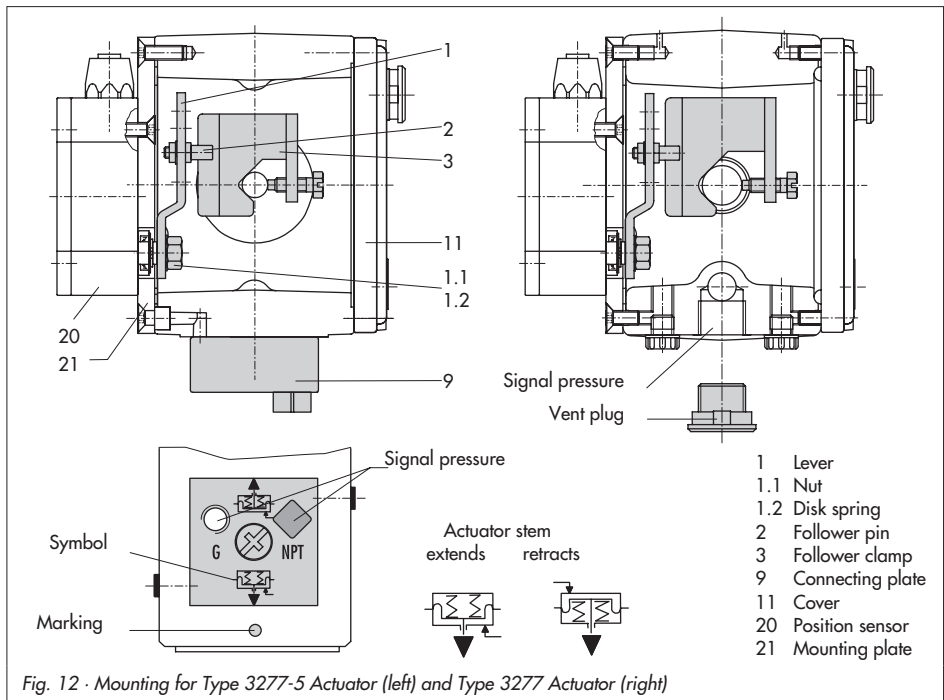

Fig. 12 · Mounting for Type 3277-5 Actuator (left) and Type 3277 Actuator (right)
The signal pressure from the positioner is routed over the signal pressure connection of the connecting plate (9, Fig. 12 left) to the actuator diaphragm chamber. To proceed, first screw the connecting plate (9) included in the accessories onto the actuator yoke.
- ▶ Turn the connecting plate (9) so that the correct symbol for the fail-safe position "Actuator stem extends" or "Actuator stem retracts" is aligned with the marking (Fig. 12, below).
- ▶ Make sure that the gasket for the connecting plate (9) is correctly inserted.